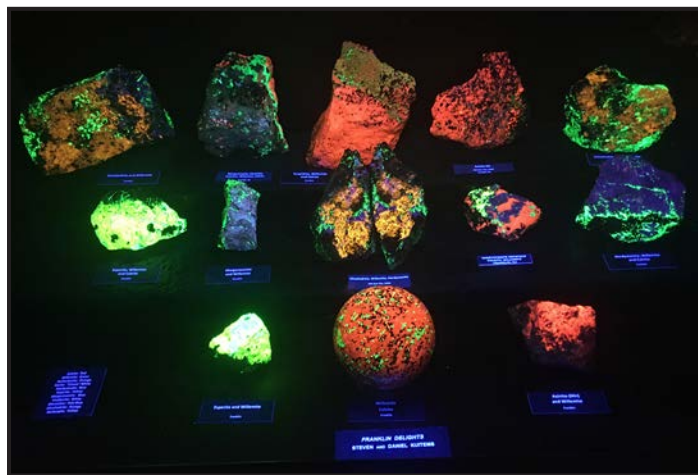

Figure 2: Franklin fluorescent minerals under shortwave UV light, many collected on the Mill Site pile. Photo by Steven Kuitems.
Baldwin’s “adventure” was short-lived; by 1911 he had lost his Scranton distributors, and as Thorpe reports, had “put to market new lamps that did not follow his original patents.” Dave Thorpe’s article, and his carefully researched book *Carbide Light: The Last Flame in American Mines*, include photographs of the early Baldwin carbide cap lamps, and highlight specific design features seen on surviving examples of these lamps (Fig. 2 and 3).
places, abnormally high titanium contents of 5-14 wt.%. This prompted a visual reexamination of the specimen, during which we realized that some of the magnetite crystal faces were dull, but others showed numerous small areas of high reflectivity. Examination of the highly reflecting areas under magnification revealed that they are small, lustrous crystals of a dark green mineral (Fig. 2) lying flat on the crystal faces of the underlying magnetite. Additional XRF measurements showed that those magnetite crystal faces bearing great numbers of the green crystals are high in Ti content, averaging 7.8 wt.% Ti, whereas faces with few or no green crystals average only 0.7 wt.% Ti. This, plus the green color and rhombohedral outline of many of the crystals (Fig. 2), suggested they are pyrophanite. The magnetite between the pyrophanite crystals is uniformly dull and pitted by weathering, but the pyrophanite crystals retain their high luster, which lends to some of the magnetite crystal faces a curiously speckled appearance.
Figure 2: Close-up view of two of the magnetite crystals, showing abundant crystals of dark green pyrophanite on the magnetite surfaces. Horizontal field-of-view is approximately 6.5 cm (2.6 inches). Photo by Earl R. Verbeek.
Also worthy of note is the evident parallelism of many of the pyrophanite crystals on the octahedral crystal faces of the underlying magnetite (Fig. 2). This is a probable example of *epitaxy*—an oriented overgrowth of one mineral on an older one. As explained by Rakovan (2006), epitaxy can occur when “specific crystallographic directions of the substrate [magnetite in our case] and overgrowth [the pyrophanite] are aligned. This occurs when certain structural planes in the overgrowth and substrate have similar spacing between atoms.” A similar process often occurs in exsolution, when an originally homogeneous, high-temperature phase separates (exsolves) into two separate minerals upon cooling and contraction of the crystal structure. Again in reference to pyrophanite and magnetite, Valentino (1983) suggested that the microscopic lamellae of pyrophanite in the specimen he studied from the 500 level of the Sterling Mine have their (0001) planes parallel to the (111) planes of the host magnetite. In that orientation, Valentino notes, the interplanar spacing of oxygen ions in both minerals is similar, thus giving rise to a preferred orientation of the exsolved pyrophanite lamellae. The shape of the pyrophanite crystals in Figure 2 suggests the same relation, but we stress that we have made no measurements of their crystallographic orientation.